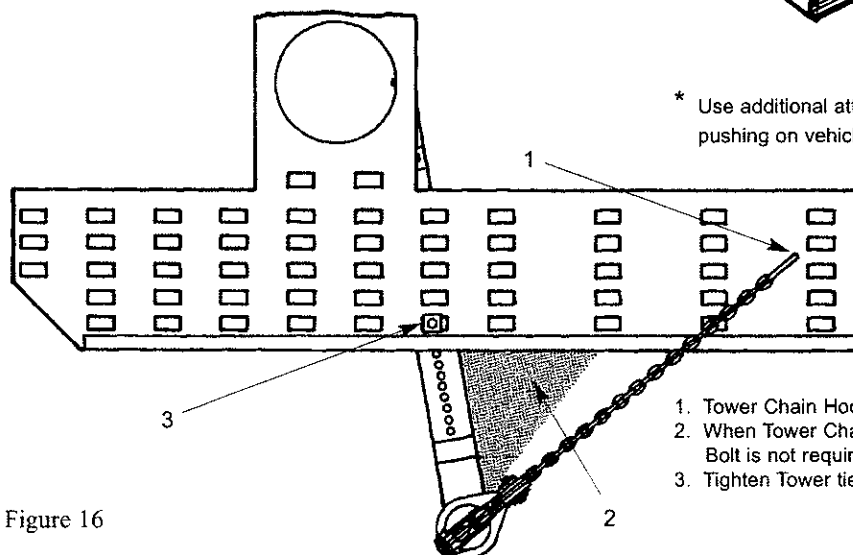

Figure 16
3. Pull from side of tower exceeds 45 degree angle from tower base. (See Figure 16.) This situation does not necessarily force tower up or down, but instead causes tower pedestal rings to twist.